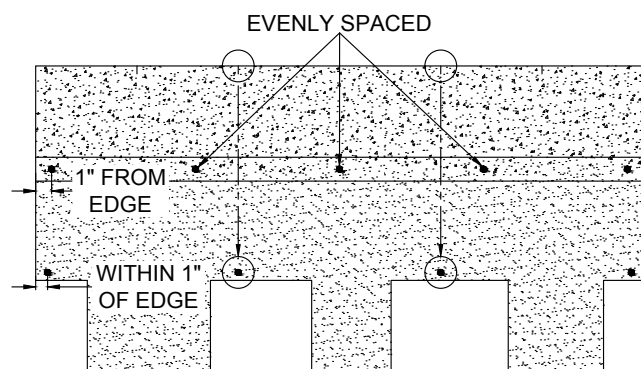

Figure 16 - Windsor®, 9-Nail Fastening Pattern
- Place five (5) fasteners in the high nailing area, equally spaced across the shingle, with the outer fasteners 1" (25 mm) in from each edge.
- Place four (4) fasteners in the low nailing area, approximately $\frac{3}{4}$ " (19 mm) above the tabs, making sure the fasteners will be covered by shingle tabs in the course above them.
- The two inner notches at the top of the shingle will aid in the alignment of the two inner low nailing area fasteners while the two outer fasteners are placed 1" (25 mm) in from each edge. (See Figure 16)